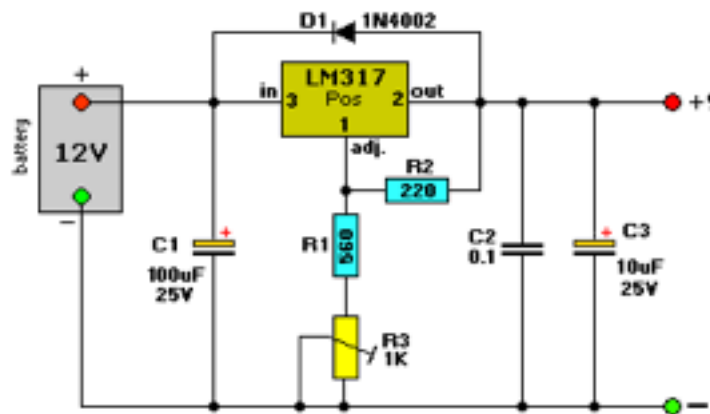

Figure 3. LM317 12V to 9V conversion
- The first step is to Step-Down the voltage from 11.1 V to 9V and LM 317 was used to Step-down the voltage. The circuit for the conversion is shown in fig 3. LM317 is rated at 1A output.